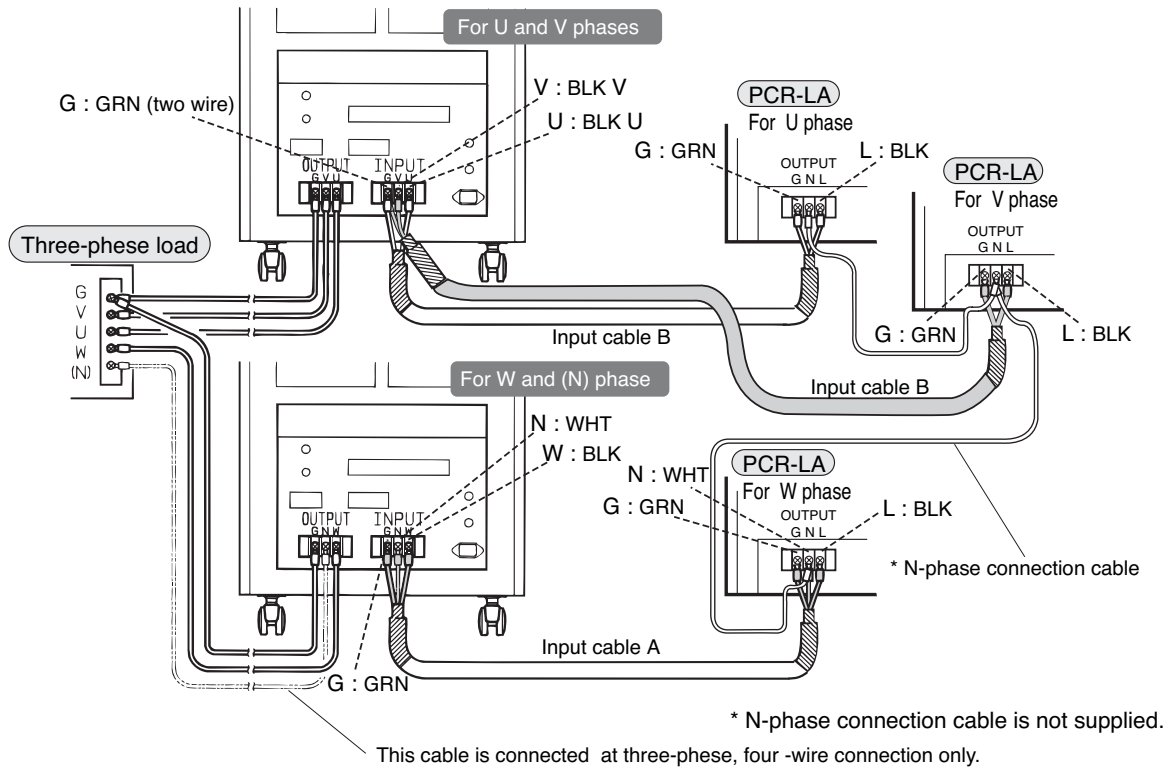

Fig. 5-2 Three-Phase Wiring Diagram
5. As shown in Fig. 5-2, use one input cable A and two input cable Bs to connect the INPUT terminal board of two impedance networks and the OUTPUT terminal board of three PCR-LAs, as shown below.
6. Securely connect the output cable, which goes to the load, to the impedance network's OUTPUT terminal board, as shown in Fig. 5-2.